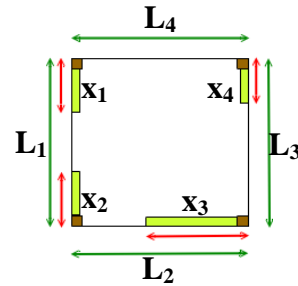

Figure 8
4.7.2 In Figure 8 (plan view), the sum of the lengths of all four sides, marked by green arrows, gives the total outer perimeter $\sum L_i$. The sum of the lengths of the bracings, marked by red arrows, is $\sum x_i$. The following condition has to be satisfied: